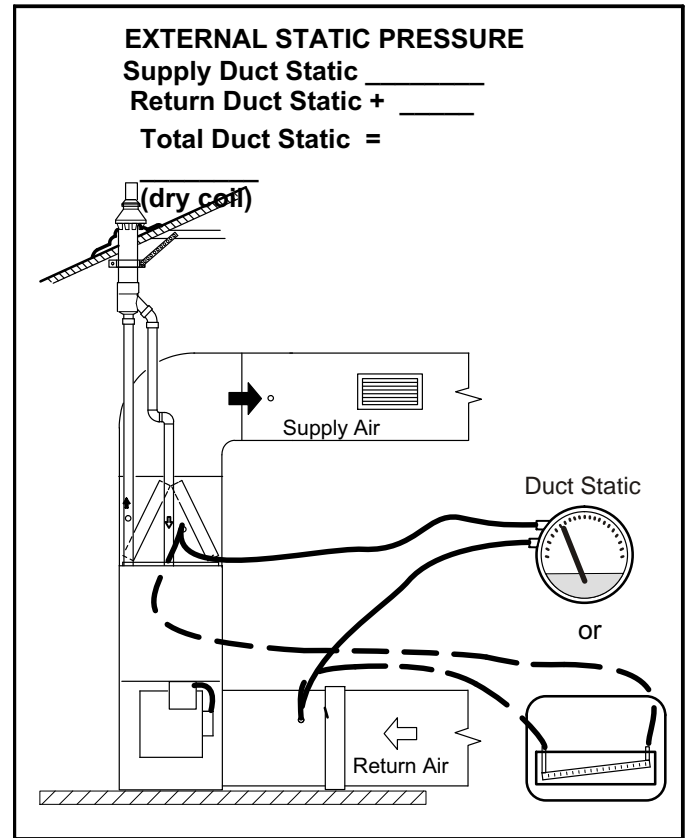

FIGURE 64
- 2 - Punch a 1/4" diameter hole in supply and return air plenums. See figure 64. Insert manometer hose flush with inside edge of hole or insulation. Seal around the hose with permagum. Connect the zero end of the manometer to the discharge (supply) side of the system. On ducted systems, connect the other end of manometer to the return duct as above.